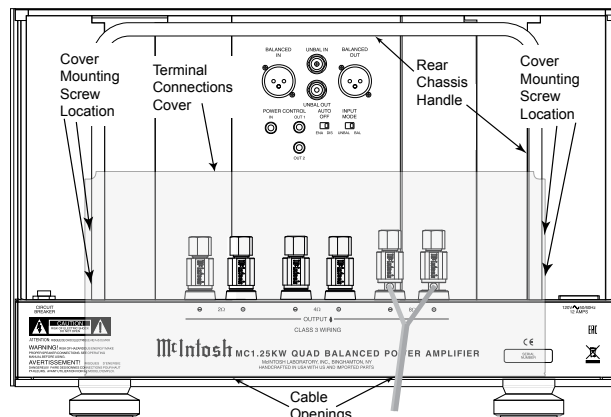

Figure 6 (Outside USA and Canada)
11. Locate the Terminal Connections Cover from the inside of the MC1.25KW shipping carton. Insert the just prepared Loudspeaker hookup cables thru the cover opening on the right side. Refer to figure 6.
Note: The illustration in figure 6 is connections for 8Ω (ohms) Loudspeakers.
13. Attach the Terminal Connections Cover to the MC1.25KW Rear Panel with the previously removed Screws. Refer to figure 6.